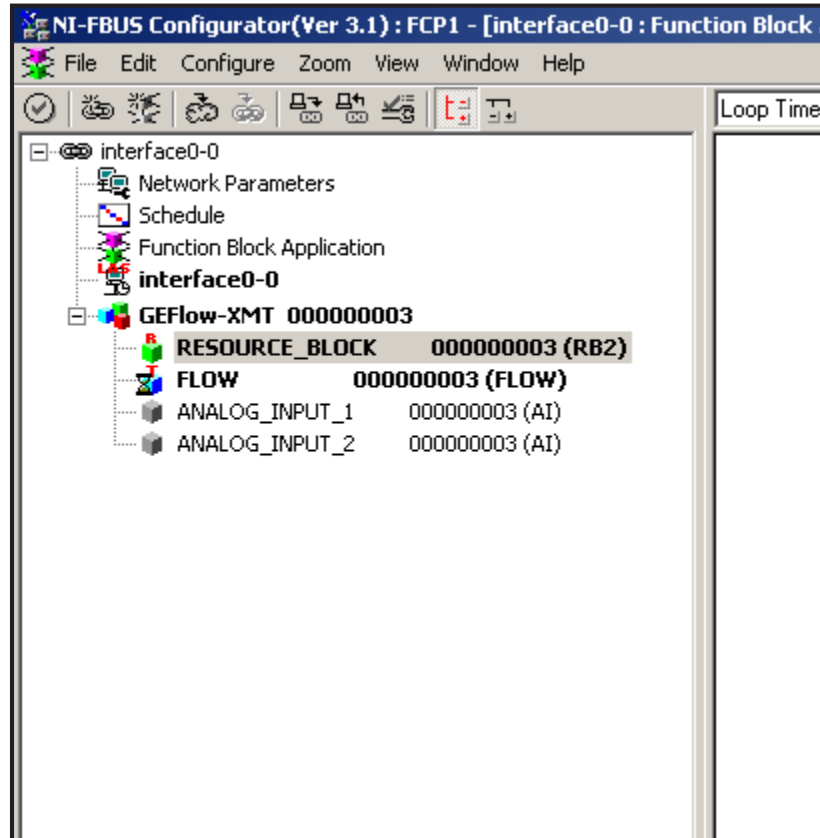

Figure 40: Configuration Utility Setup Example
Figure 40 shows the Configuration Utility with a flowmeter on the network (GE Flow-XMT).
1. Double click on the AI block for which you wish to set the units (ANALOG_INPUT_1 or ANALOG_INPUT_2 in the tree under GEFLOW-XMT; see Figure 40 on page 118).
1. Double click on the FLOW transducer block (in the tree under GEFLOW-XMT; see Figure 40 on page 118).